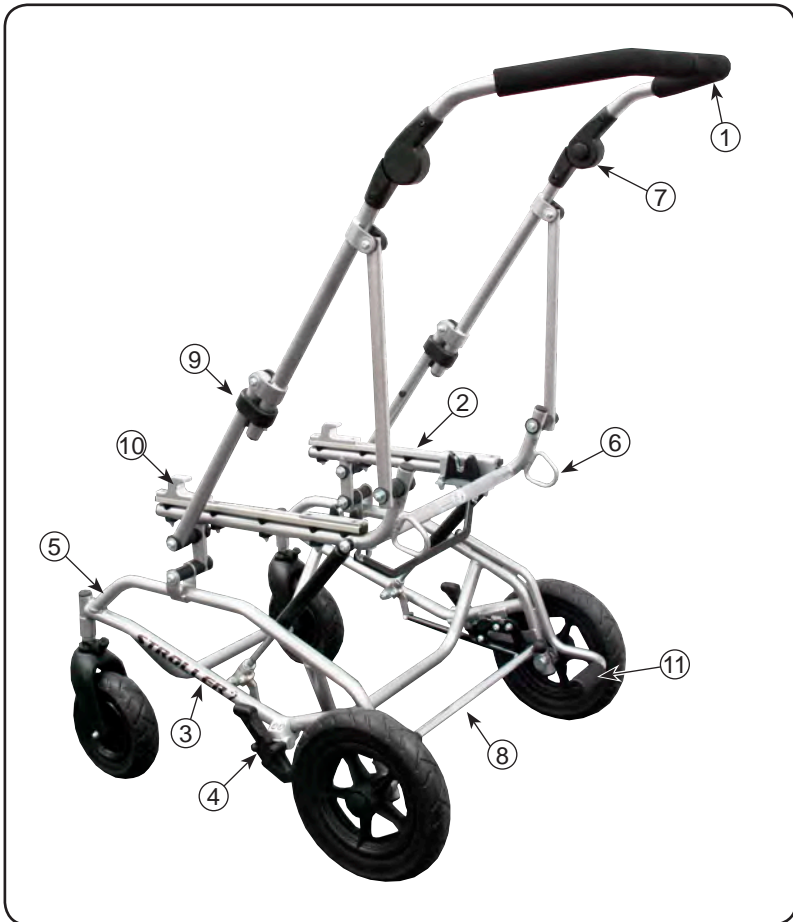
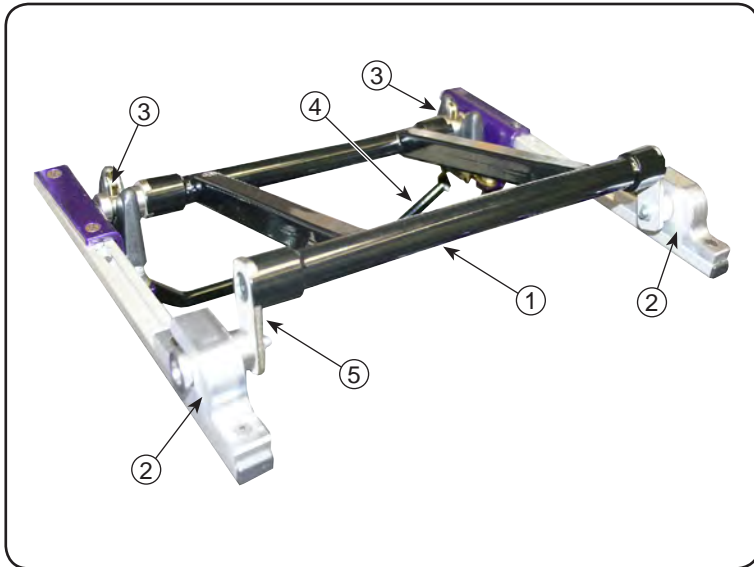

Fig.2.1 Stroller
Fig.2.2
- S.O.S. Strollers are provided with a tilting frame (Fig.2.1) and a seating system quick release interface (Fig.2.2 on page 10).